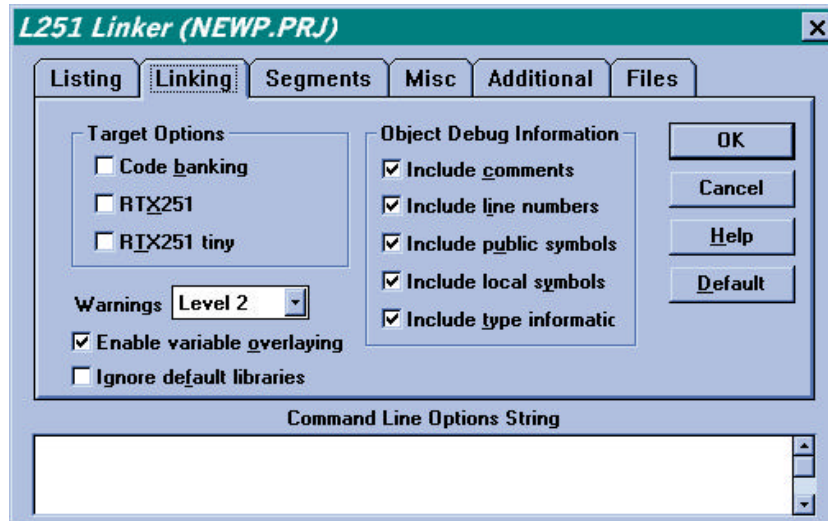

FIGURE 4a
- Configure the options in the window as shown in Figure 4a and press *OK*.